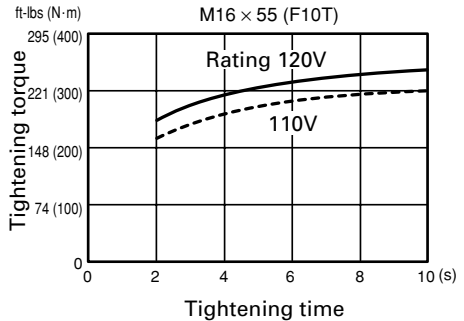

Fig. 5
1. Confirm the line voltage (Fig. 5)
The tightening torque decreases when the line voltage becomes low. (See Fig. 5)
The tightening torque increases when the operating time increases. But the tightening torque does not increase above a certain value even if the tool is driven for a long time. (See Fig. 5)
The tightening torque differs with the diameter of the bolt as shown in Fig. 5. Generally a larger diameter bolt has a larger tightening torque.